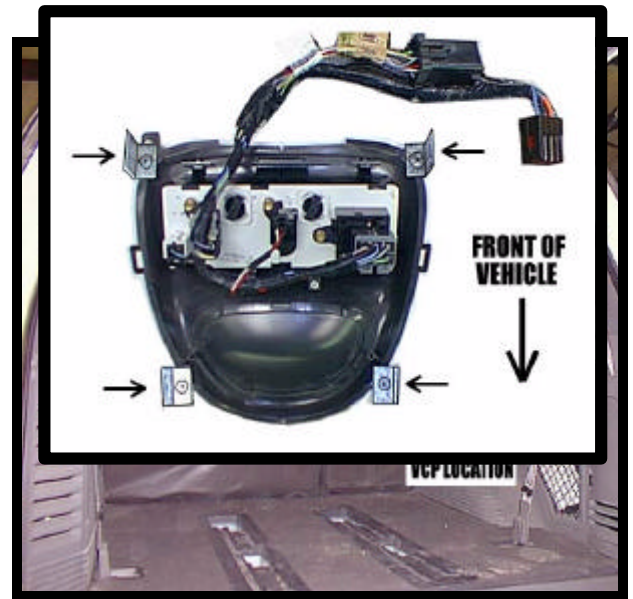

Figure 7
6. Install video system wiring into vehicle. Route video system cables from installed position in center of roof to “B”-pillar. Down “B”-pillar to floor. Route power and ground leads forward to fuse box area. Connect power wire to a fused accessory controlled power source per instructions provided in video system. Ground negative lead to chassis. Route remaining wiring (RCA plugs, Remote sensor extension, etc.) to VCP location. Connect per instructions provided with video system. If video system is to be used as a television, install an appropriate antenna per instructions included with antenna. See Figure 7.